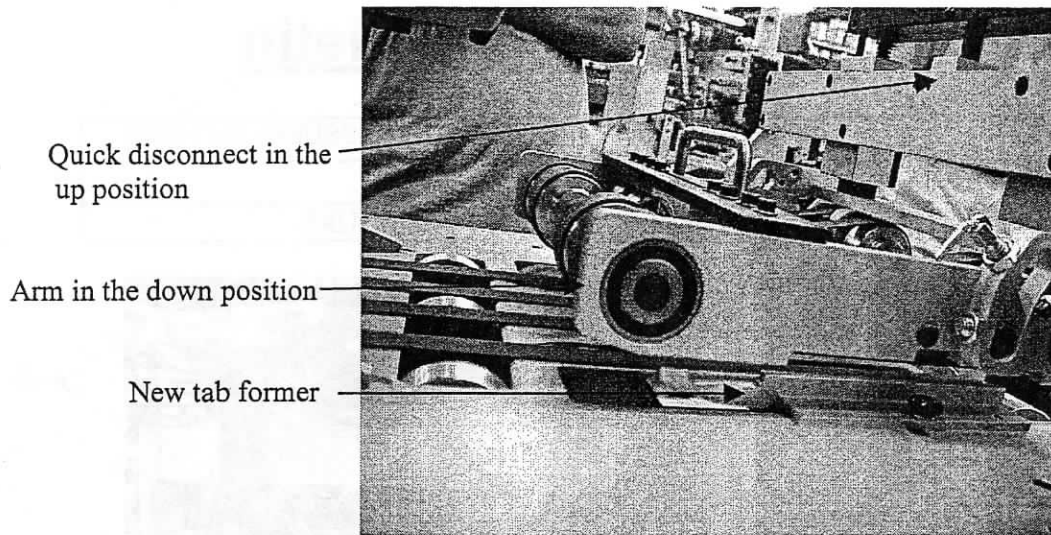

Figure 2
6. Remove the tab formers and replace with the new tab formers. (see **Figure 2**)
8. Lower the upper belt arm into the down position (see **Figure 2**). Loosen the two ¼-20 bracket lock screws (see **Figure 11 and 12**) on both right-hand and left-hand bracket lock screws.
10. Open the quick disconnect to the up position (see **Figure 2**). Loosen the left-hand and right-hand adjustment screws to allow the arm to fall below horizontal. This will allow the front rollers to touch before the back rollers as the quick disconnect is lowered.